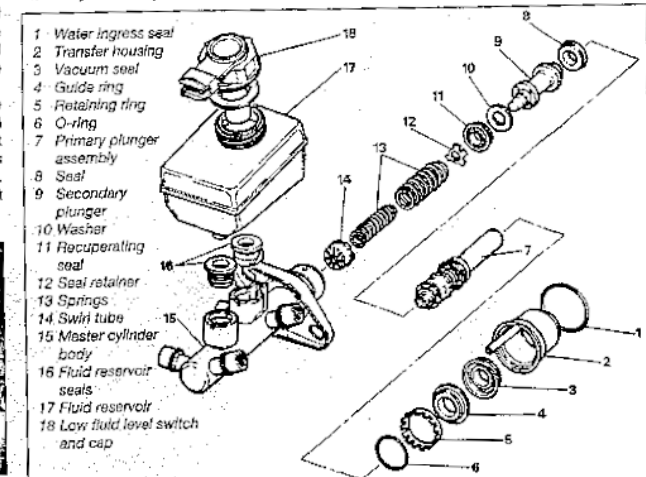

Fig. 13.144 Exploded view of the brake master cylinder fitted to 1987-on models (Sec 14)
- 17 As from 1987 a revised master cylinder is fitted. The procedures are similar to those described in Chapter 9 although the internal components are as shown in Fig. 13.144.